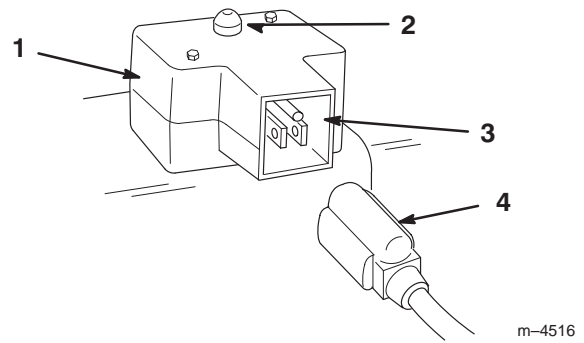

Figure 15
- **Electric Starter** (Fig. 15)—Push the starter button to start the engine.
- **Power Cord** (Fig. 15)—Connect the power cord to the electric starter and to an electrical outlet when starting the engine.
- A. Connect the power cord to the snowthrower (Fig. 15) and to a standard household power outlet.